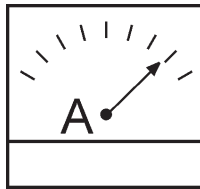

Figure 50. Ammeter (Load)
- Observe the generator's ammeter (Figure 50) and verify it reads the anticipated amount of current with respect to the load. The ammeter will only display a current reading if a load is in use.